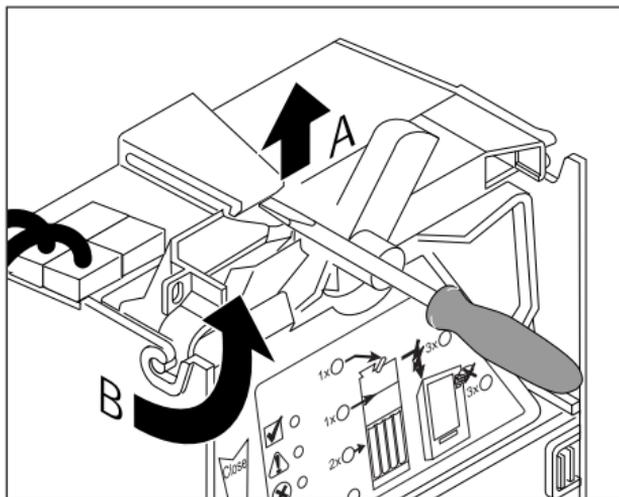

Fig. 8a: Folding out the coin validator
- 1 Fold the coin validator out of the changer (see Fig. 8a).